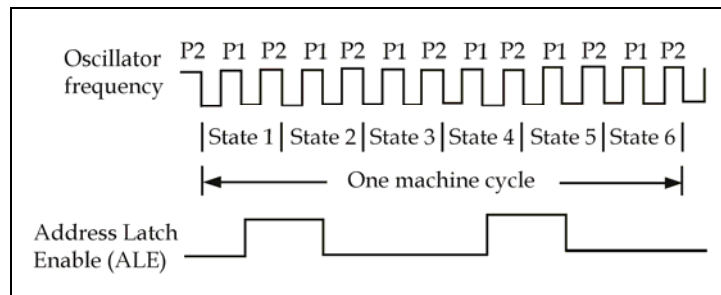

Fig. 2.4
The basic timing of the 8051 machine cycle is shown in fig. 2.4. The entire timing of a machine cycle of 8051 is divided into 6-states and they are denoted as S1, S2, S3, S4, S5 and S6. The timing of each state is two clock periods and they are denoted as P1 and P2.
4. In fig. 2.4 there are two ALE pulses per machine cycle. The ALE pulse, which is primarily used as a timing pulse for external memory access, indicates when every instruction byte is fetched.